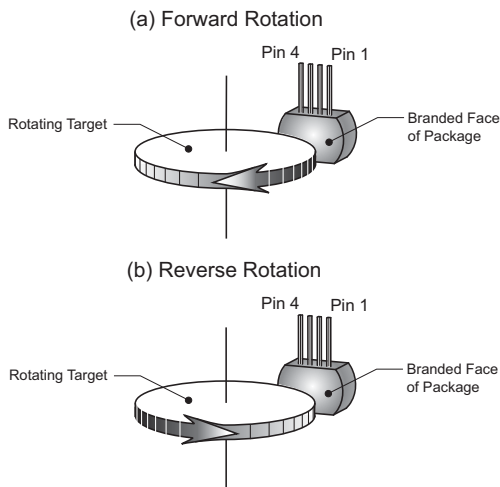

Figure 1. Target rotation
**Forward Rotation** (See panel *a* in figure 1) When the target is rotating such that a tooth near the package passes from pin 4 to pin 1, this is referred to as *forward* rotation. This is diagrammed below. Forward rotation is indicated on the output pin by a 45  $\mu\text{s}$  pulse width.
**Reverse Rotation** (See panel *b* in figure 1) When the target is rotating such that target teeth pass from pin 1 to pin 4, it is